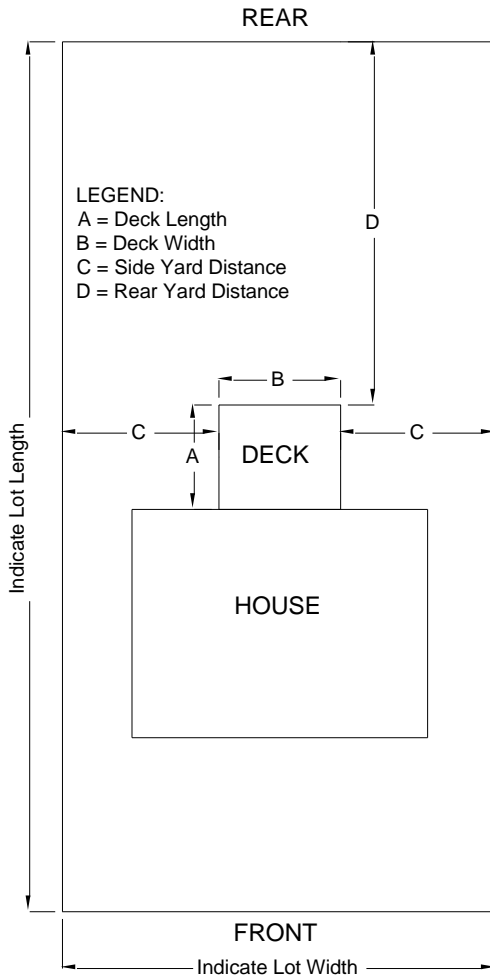

Figure 1 – Typical Site Plan
1. You must present a well-drawn site plan or a copy of a Surveyor's Certificate showing all property dimensions, location of all buildings, and location and size of the proposed deck. See *Figure 1* for details.